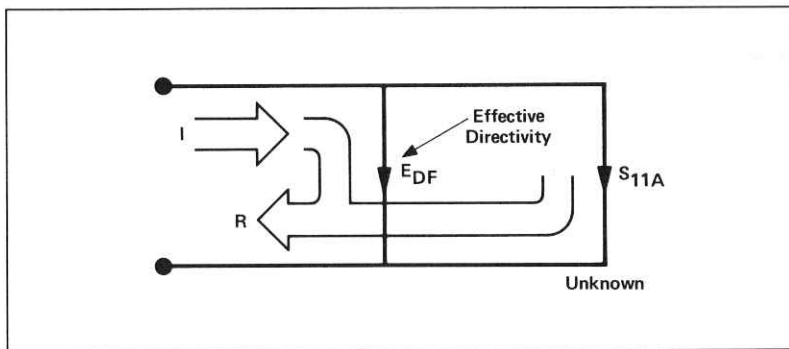

Figure A5-3
However, all of the incident signal does not always reach the unknown (see Figure A5-3). Some of (I) may appear at the measurement system input due to leakage through the test set or other signal separation device. Also, some of (I) may be reflected by imperfect adapters between signal separation and the measurement plane. The vector sum of the leakage and miscellaneous reflections is directivity, EDF. Understandably, the measurement is distorted when the directivity signal combines vectorally with the actual reflected signal from the unknown, S_{11A}.